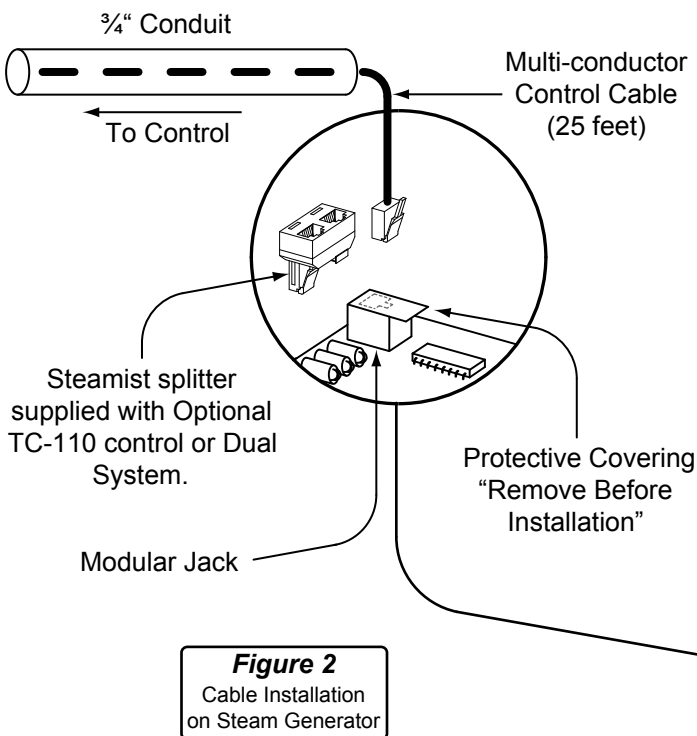

Figure 2
- a) Remove the multi-conductor cable from the control packing box. Carefully route the multi-conductor control cable from the Steambath Generator to the TC-135 located inside the steamroom (see Figure 2). Route multi-conductor cable through a ¾" conduit to protect the cable from damage and to facilitate replacement if necessary.
- a) Locate the previously installed cable and black plastic strain relief clamp which is in the control packing box. Locate the knock-out on the steam generator for the control cable (see Figure 2).
- c) If TC-135 is used in conjunction with the optional TC-110 control or Dual System, plug the splitter into the modular jack, this will allow two cables to be plugged into the PC board (see Figure 2).
- f) Locate Telco Jack at female coupler, on back of the TC-135 control. Remove the protective covering labeled "Remove before Installation". Remove protective cap from cable and plug into jack. Check that the orientation of the plug properly aligns with the jack. A snap will indicate the plug is installed correctly (see Figure 2).